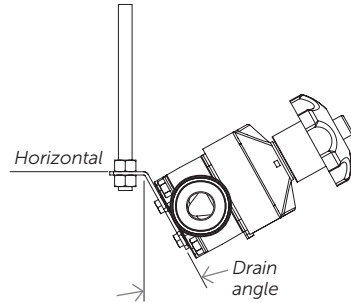

Figure 2.
- Mount the valve bracket assembly to the preferred structure. To ensure complete drainability, the bracket flange must be on the horizontal plane, refer to Figure 2.